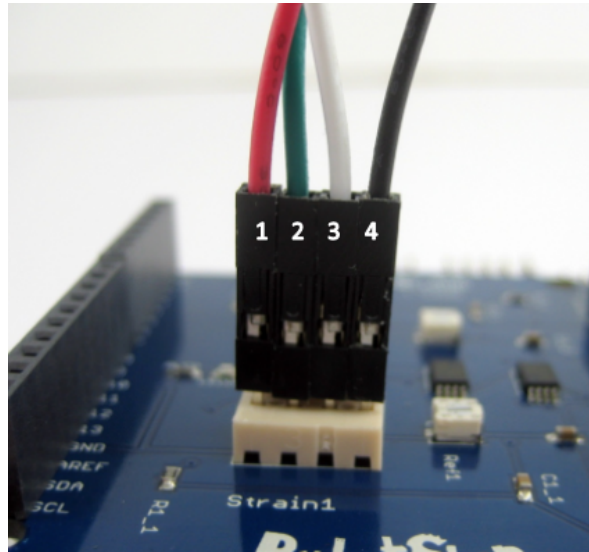

Figure 15. Close up of the plastic connector of the 4 Wire Harness plugged into the strain1 port of the Amplifier
3. Assign the remaining wire colors to correspond in order with terminals 2 and 3 of the amplifier (i.e. 1,2,3,4 (Figure 15)).
6. Plug the free end of the 4 Wire Harness (the end that still has the plastic connector) into the strain1 port of the amplifier. Make sure to align the wire color assigned to correspond with terminal 1 with terminal 1. The terminals are numbered in ascending order from left to right (Figure 15).